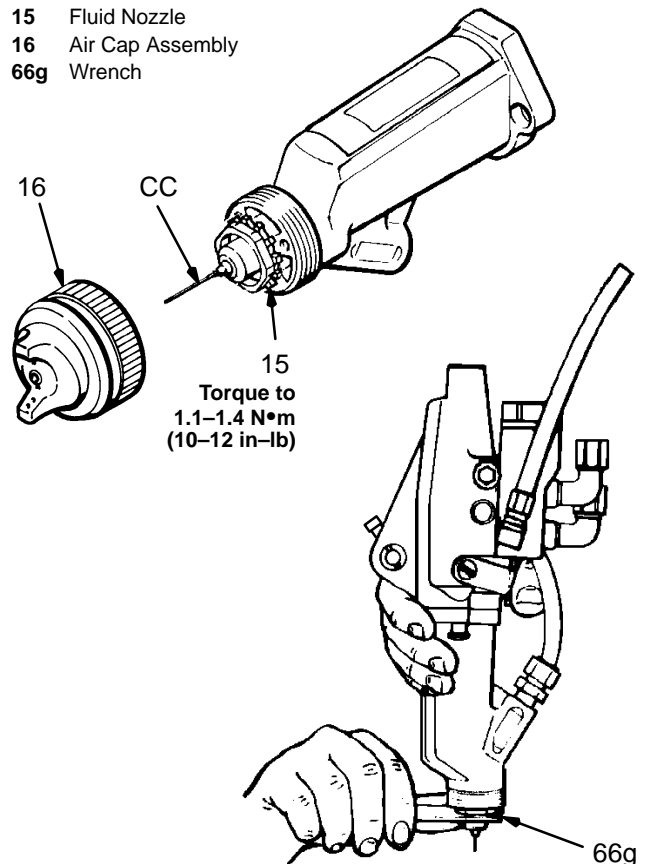

Fig 6
2. Remove the air cap assembly (BB). See Fig 6.
3. Turn the locking pin (81) to the unlocked position.
4. Squeeze the gun trigger and remove the fluid nozzle (15) with the fluid nozzle wrench (66g) supplied. Make sure the front of the gun is pointed down. See Fig 6.
6. Squeeze the gun trigger and screw the fluid nozzle back into the gun. Tighten the nozzle securely with the wrench (66g) supplied. Torque the fluid nozzle to 1.1–1.4 N•m (10–12 in–lb). See Fig 6. Turn the locking pin to the locked position.
7. Carefully reinstall the air cap assembly. Avoid bending the electrode (CC).